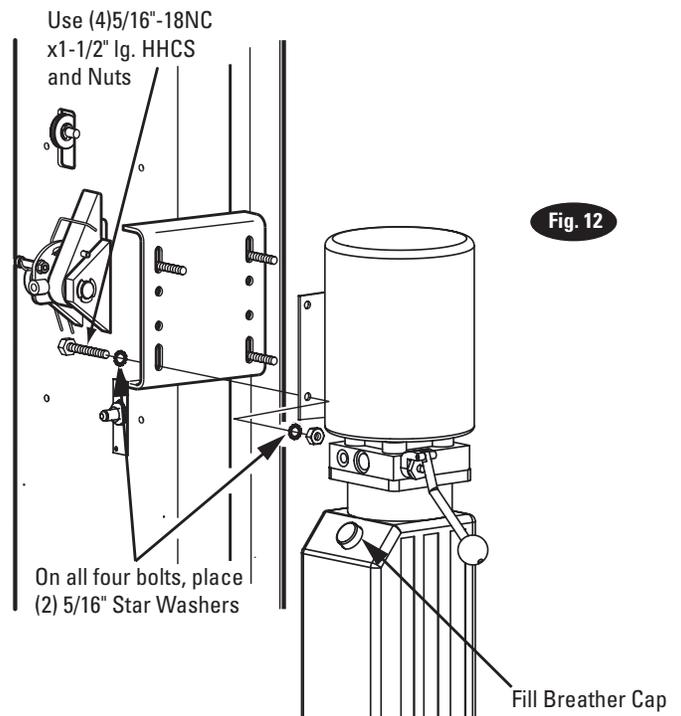

Fig. 12
12. Power Unit: First install a star washer onto all of the (4) 5/16"-18NC x 1-1/2" HHCS. This is very important for grounding. Put the (4) 5/16"-18NC x 1-1/2" HHCS thru holes in power unit bracket, Fig. 12. Mount unit with motor up to column bracket and install (4) 5/16" star washers and 5/16" Nuts. Install and hand tighten fitting to pump until O-ring is seated. Continue to tighten the locknut until the nut and washer bottom out against the pump manifold.